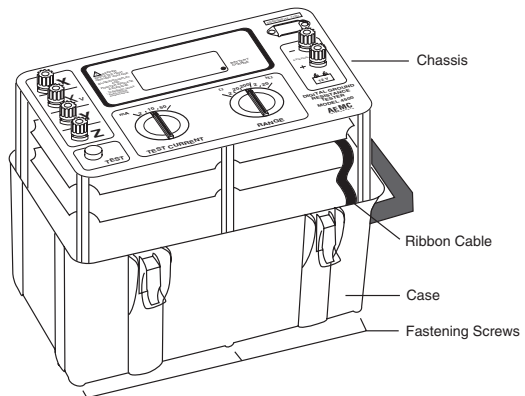

Figure 22
- Pull out the chassis (Figure 22). Remember to unplug the ribbon cable which connects the power supply board in the bottom of the case to the boards mounted in the chassis.
- Remove the six hex screws from the bottom of the case (see Figure 22), and lift the chassis from the case housing.